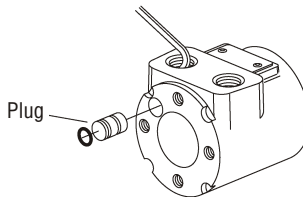

Figure 5-29, Housing Plug
13. A metal plug, with seal, plugs a machining hole in the housing. It is not necessary to remove the plug and replace seal unless leakage occurs around the plug. To remove the plug, insert a 5 mm (.187 in.) hex key through the port opening and push it out. (Figure 5-29)